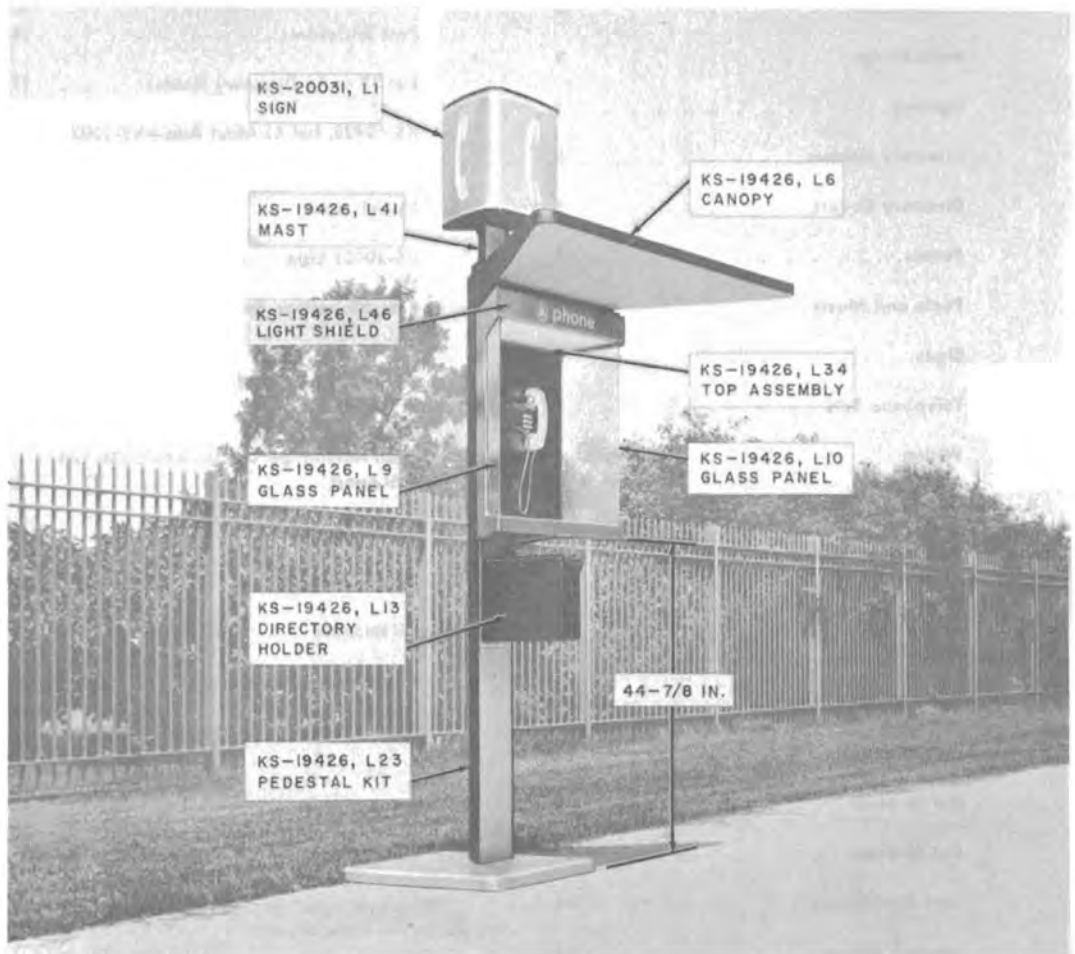
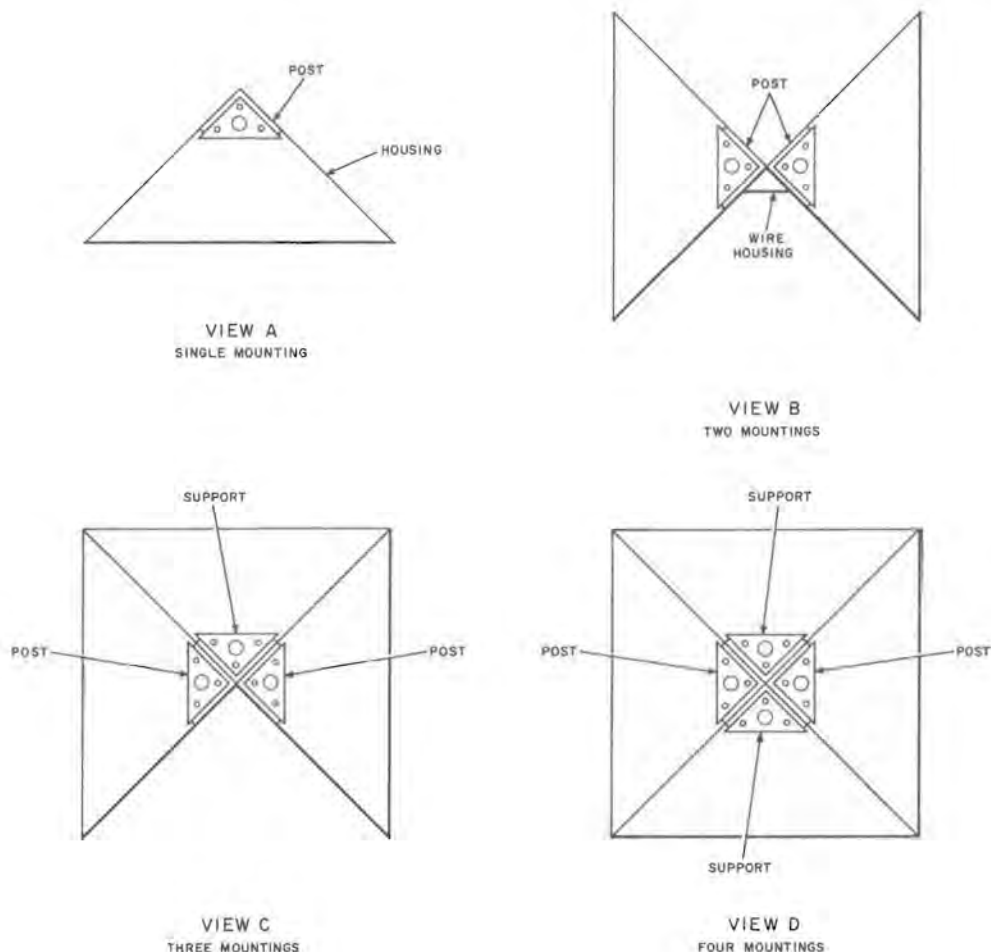

Fig. 1—KS-19426 Mounting for Walk-Up Outdoor Service with List 41 Mast and KS-20031 Illuminated Sign
Fig. 6—Various Arrangements for Post Mountings
2.02 The KS-19426 mounting consists of a 90-degree wedge-shaped housing for post- or wall-mounting of coin telephone sets (Fig. 1 through 5).
2.03 Post mountings (Fig. 1 through 3) may be installed singly or in multiple combinations as shown in Fig. 6.
2.05 A wedge-shaped KS-19426, List 6 canopy (Fig. 1) is available for installation above a single housing to protect the user from the weather. Canopies also may be used in multiple arrangements.
- (a) List 13 directory holder (Fig. 1) for outdoor use, walk-up installations.
2.15 A KS-20031, List 1 sign, illuminated with a special 100-watt mercury lamp, is available for use with the mounting. If a List 39 or List 40 mast is not used, a List 41 mast must be ordered for mounting the sign (Fig. 1). See Section 508-810-202 for additional information on the sign.